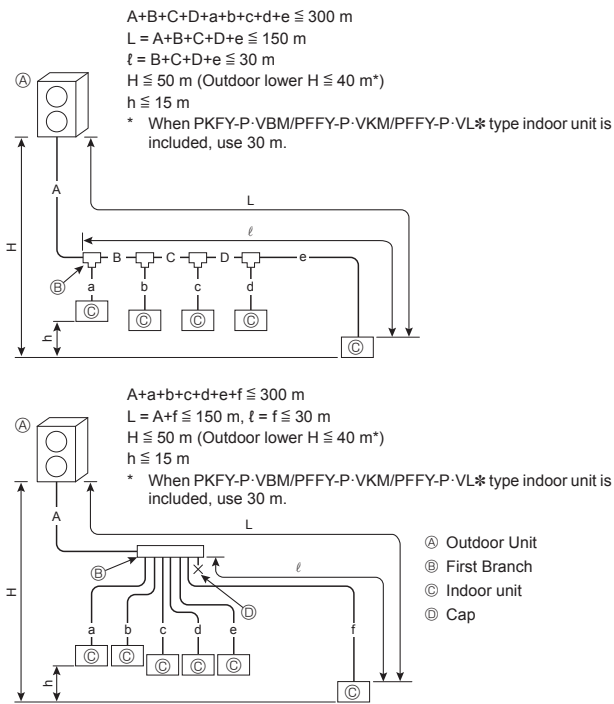

Fig. 4-1
4.2.1. Connection without Branch Box (Fig. 4-1)